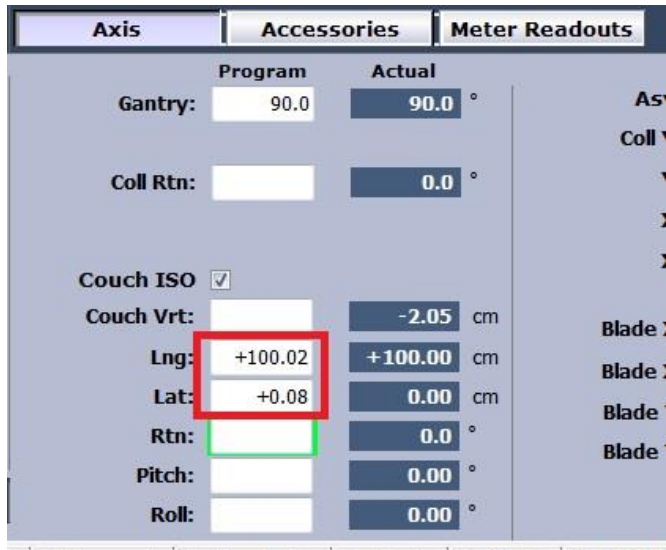

Figure 11: Entering Target Couch Linear Shift Positions
- Using the offset values from previous step, enter the new target positions on the service screen (see Figure 11) and use remote motion to shift the couch to align the cube precisely to center of Grid.